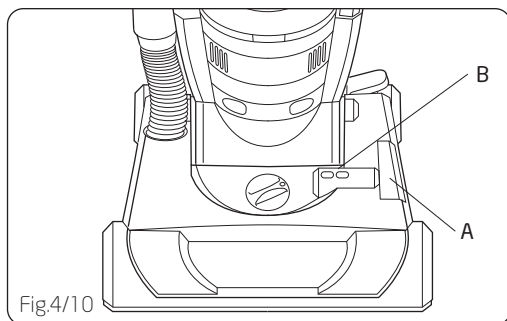

Fig.4/10
To manually shut off the brushbar for cleaning hard floors, step on the pedal (A). The indicator (B) will show red in the "brushbar off" window (Fig.4/10).